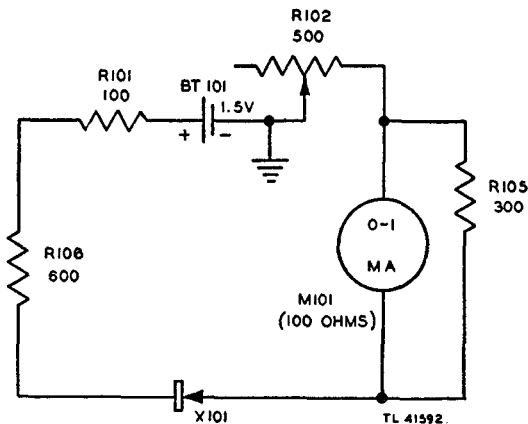

Figure 17. Circuit for backward resistance measurements, schematic diagram.
*d. BACK RES Position* (fig. 17). When the selector switch is in this position (position 3), the same connections are made as in *c* above, except that the connections to the crystal rectifier are reversed. The subsequent reading obtained on the meter then represents the backward resistance of the crystal rectifier.